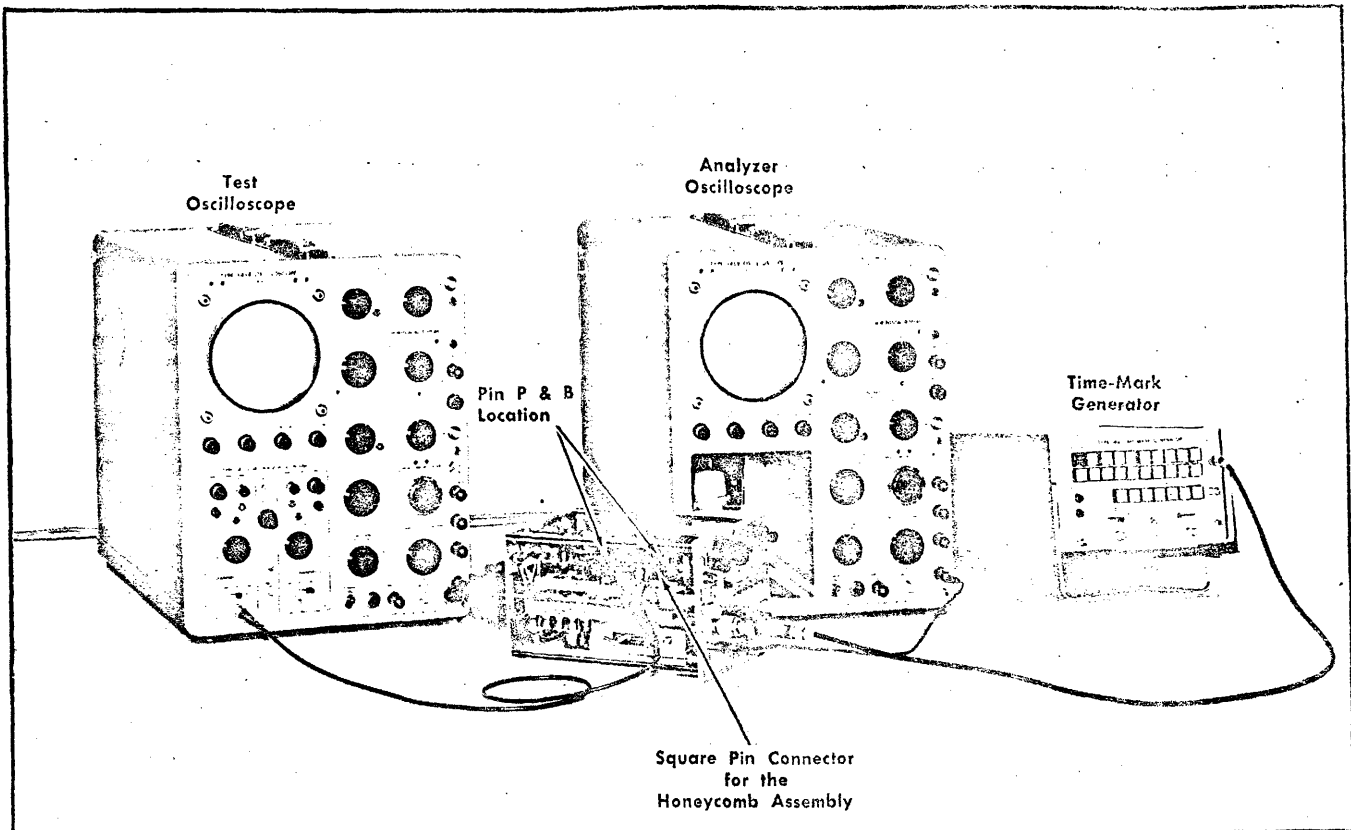

Fig. 6-3. Equipment setup to calibrate dispersion and resolution (steps 1, 2 and 3).
- a. Equipment setup is shown in Fig. 6-3.
a. Equipment setup is shown in Fig. 6-3.